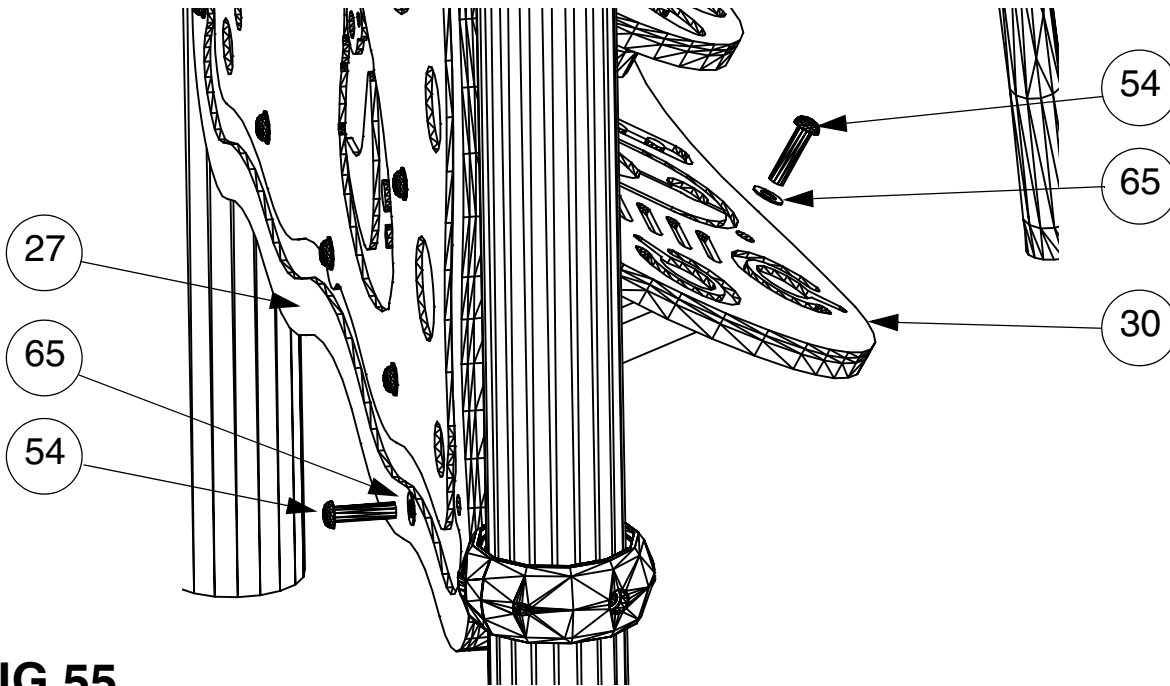

FIG.55
- 61) Assemble Aperture Panel (item 27) and Dashboard Panel Assembly (item 30) in position as shown on the Panel Fixing Rails beneath the 1200 Deck, using 16 off M10 x 40 Resistorx bolts (item 54) and M10 Washers (item 65). See FIG.55.